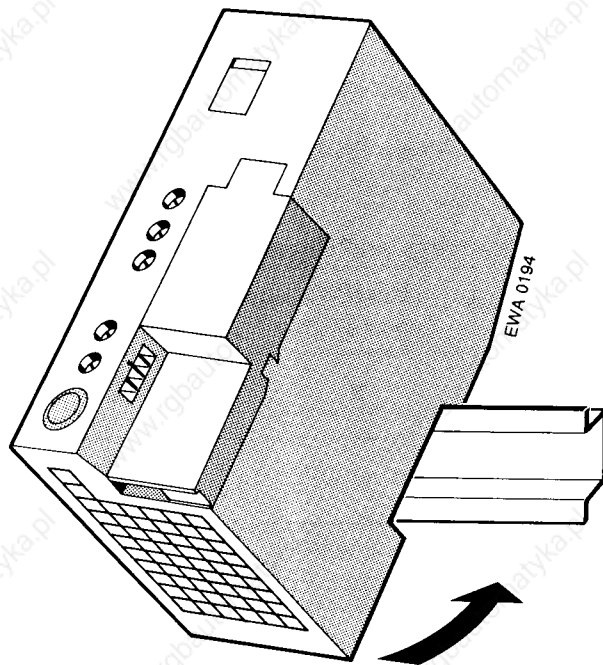

Figure 3-1. Mounting the PS 930 Power Supply Module
2. Swing the module back until the slide snaps into place (see Figure 3-1).
Follow the same procedure you used to mount the PS 930 power supply module (see Figure 3-1).